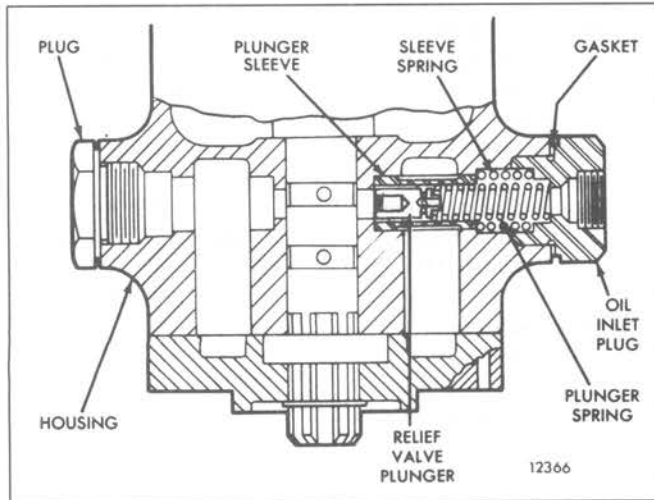

Fig. 14 – Location of Oil Relief Valve Plunger, Plunger Sleeve, Springs, Oil Inlet Plug and Dummy Plug
8. Install the ball head lock ring (41) in the groove in the ball head shaft with a pair of snap ring pliers.
9. Refer to Fig. 14 and install the relief valve plunger, plunger sleeve, plunger spring, sleeve retaining spring, oil inlet plug and dummy hole plug in the governor housing as follows: